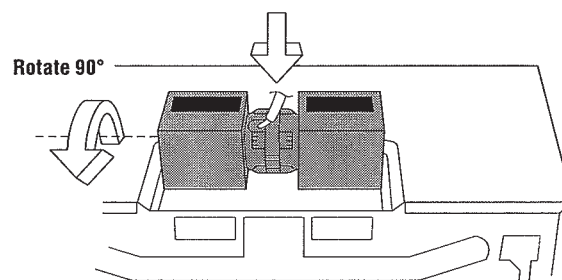

Figure 11
5. Replace the Fan Cover Bracket by sliding it into the slits in the same direction as the arrow on the Fan Cover Bracket. Make sure the fan blades are visible through the rear openings in the oven before proceeding. Attach Fan Cover Bracket to unit with 3 screws, which were removed in Step 1 above. See Figure 11. The Hood Fan Unit is now rotated for horizontal exhaust operation.
3. Turn the Hood Fan Unit end-over-end. Rotate the Hood Fan Unit 90° so that the fan blade openings are facing upward. Replace Hood Fan Unit into the oven. Be careful not to pinch the lead wire between the inner bracket and the Hood Fan Unit. See Figure 11.
4. Put the lead wire into Wire Box. See Figure 11.